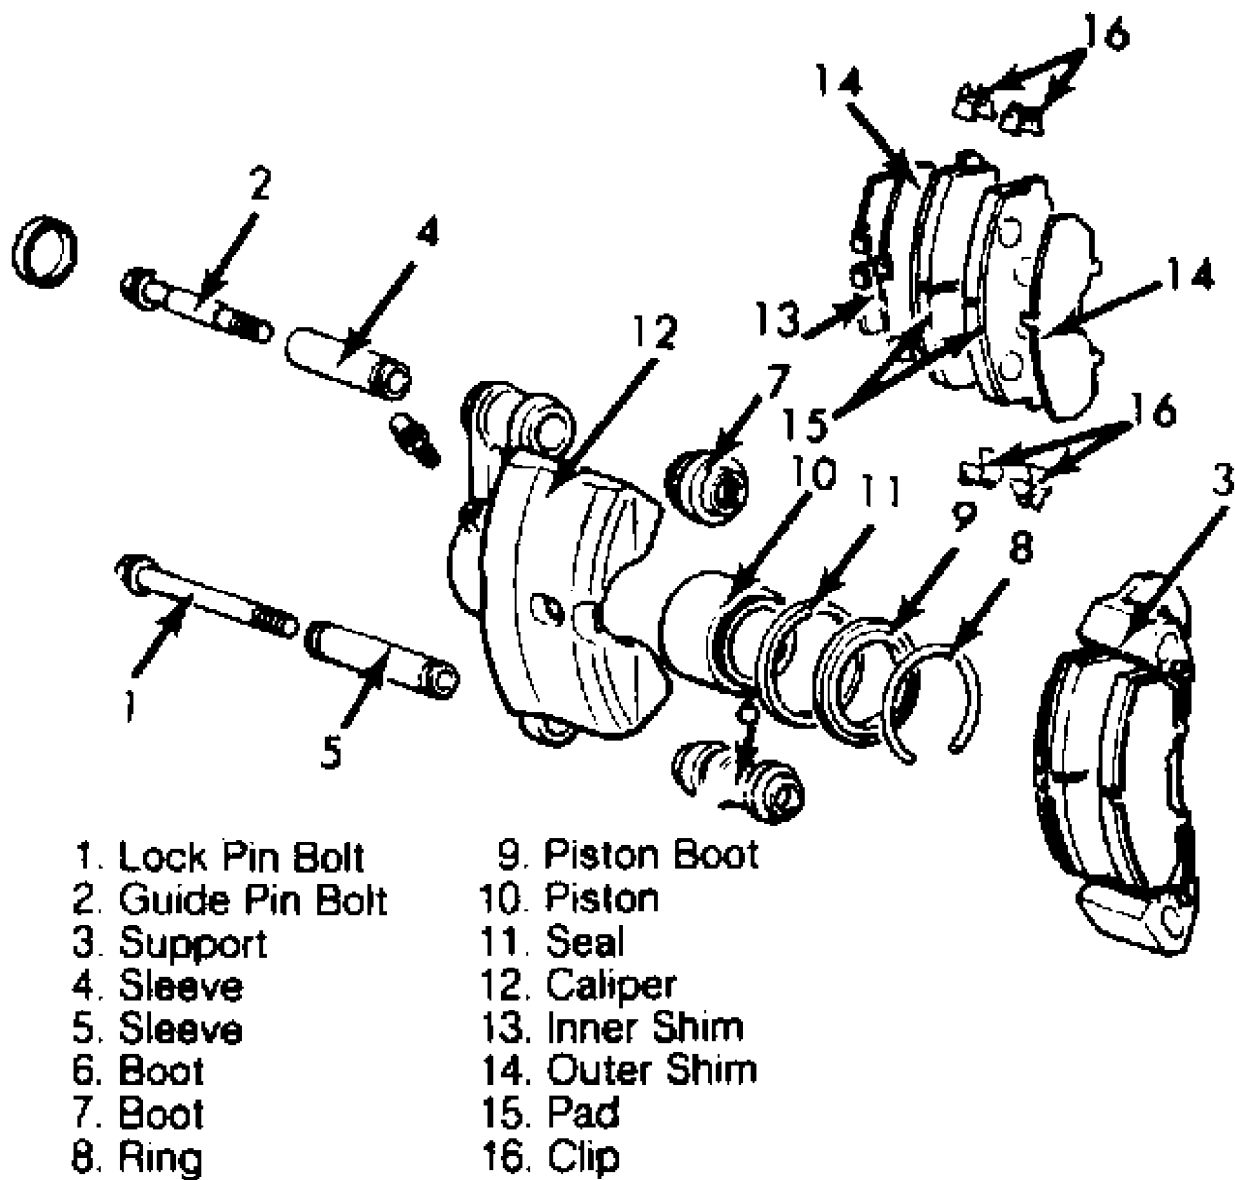
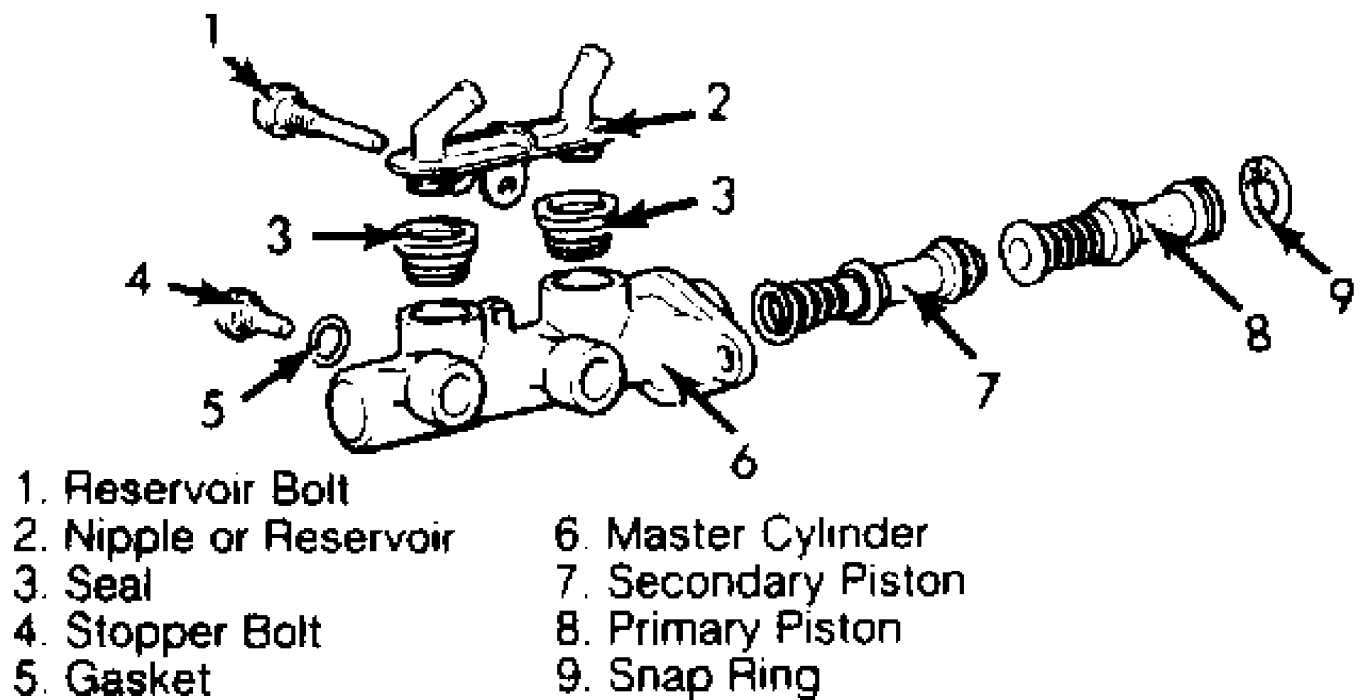
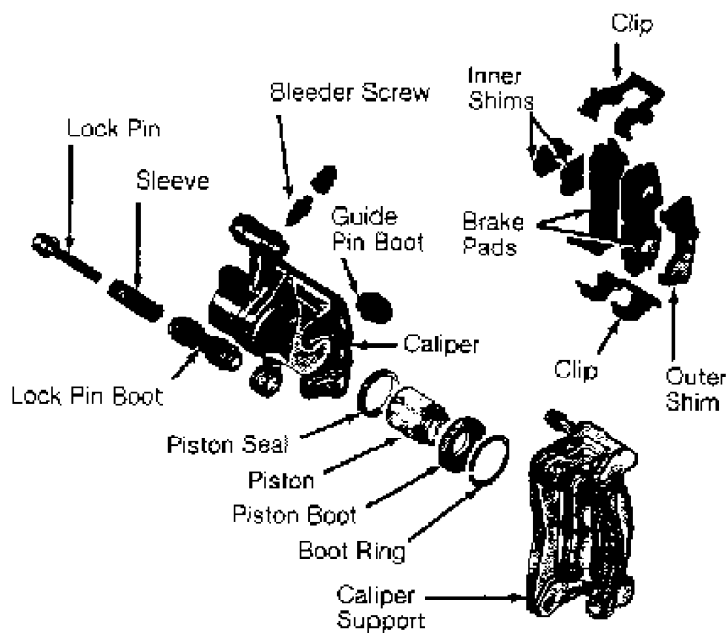

Fig. 5: View Of Front Disc Brake Assembly (Typical Single Piston)
Fig. 7: Exploded View Of Master Cylinder (Typical)
Fig. 8: View Of Rear Disc Brake Caliper Assembly (Diamante, Stealth & 3000GT)
1) Raise and support vehicle. Remove front wheel(s). Remove lower lock pin or sleeve bolt. See Fig. 8. Lift caliper body upward.
NOTE: For exploded views of front disc brake calipers, see Figs. 5 and 6. For exploded views of rear brake calipers, see Fig. 8. For exploded view of master cylinder, see Fig. 7.